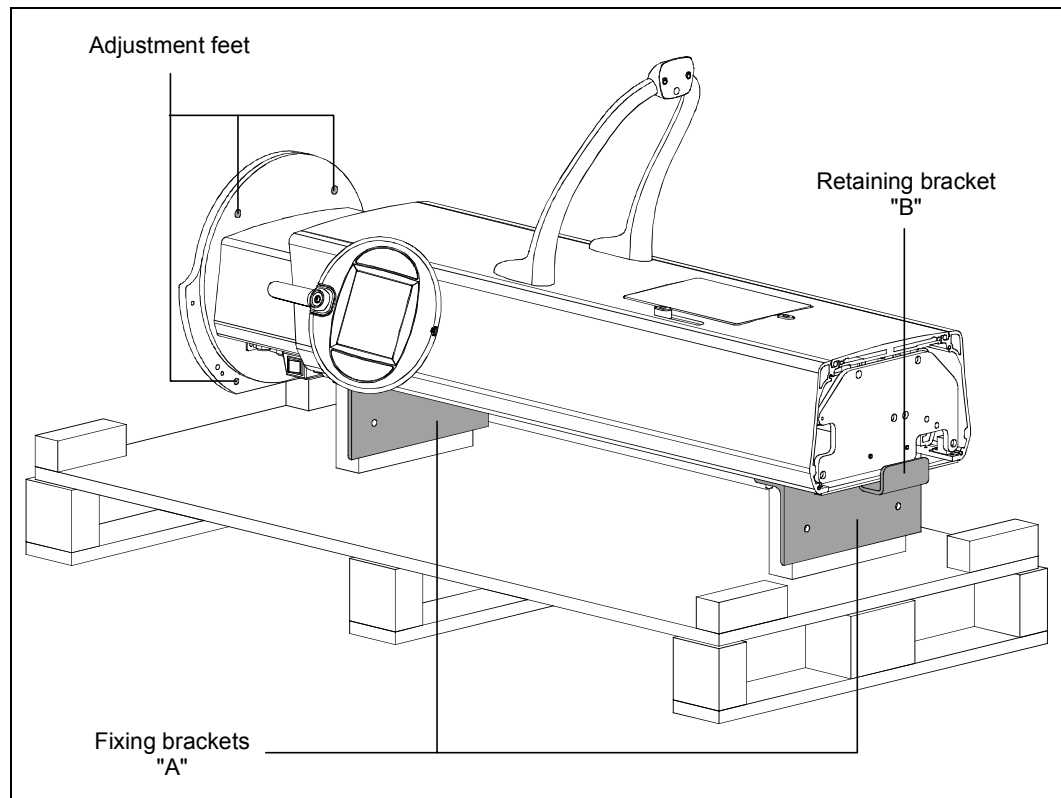

Figure 6-2
The column is delivered in a carton box containing the column itself, the patient support arm and the keyboard. All those parts are fixed to a wooden pallet using two fixing brackets (A); an additional retaining bracket (B) is fixed at the upper part of the column (Figure 6-2). Verify the presence of the four adjustment feet in the lower side of the column.